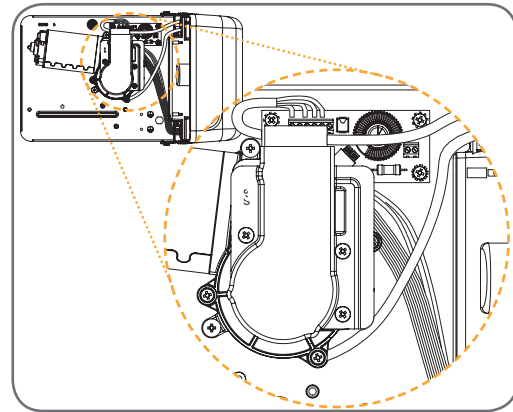

Fig 13
4. Fix the Charger Board under the timing assembly using three (3) M4x8 screws (Fig. 13).